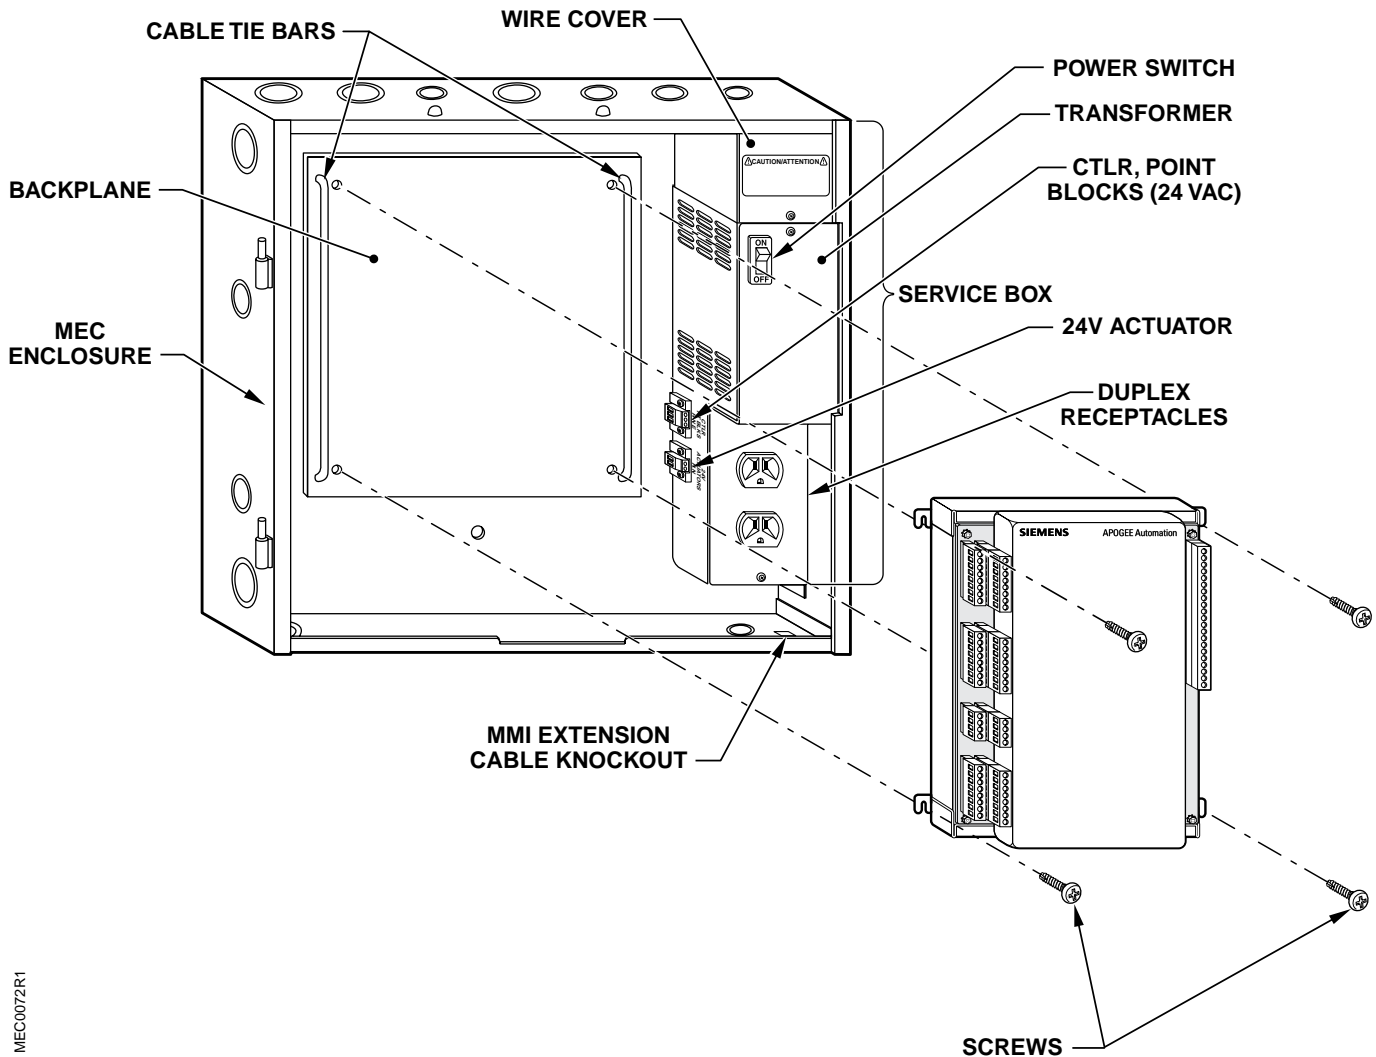

Figure 2. Mounting the MEC Inside an enclosure.
1. Carefully align the MEC on the perforated backplane of the enclosure (Figure 2).